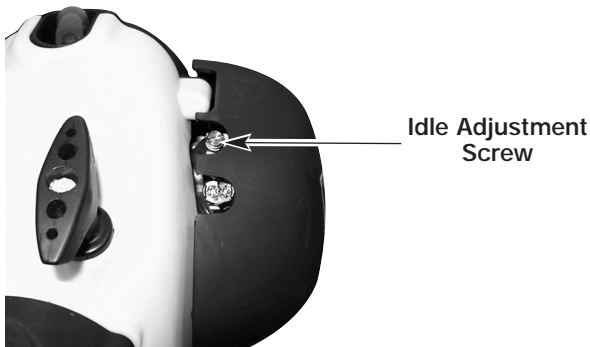

Fig. 36
1. Locate the idle adjustment screw on the carburetor (Fig. 36).